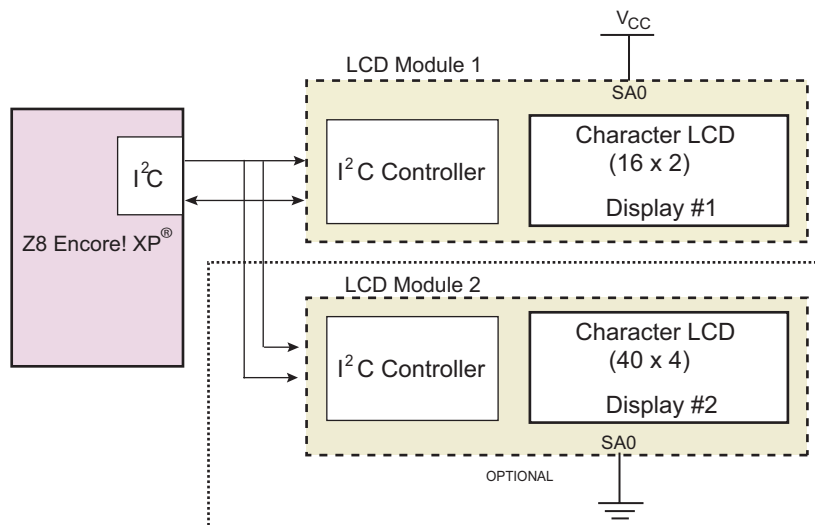

Figure 4. A Typical Arrangement of I²C-Based LCD Modules with Z8 Encore! XP MCU
- The SA0 pin on the PCF2116 device can be used as a select pin when two I²C-based LCD modules are connected to the Z8 Encore! XP[®] MCU (see Figure 4).
The advantage of using an I²C-based character LCD module is that only two GPIO pins on the Z8 Encore! XP[®] microcontroller are utilized for transferring data to the LCD module instead of the usual eleven pins in 8-bit mode, or seven pins in 4-bit mode. Consequently, you can connect a number of I²C-based LCD modules, in parallel, to a single Z8 Encore! XP microcontroller without much additional hardware or software overhead (see Figure 4 on page 4).